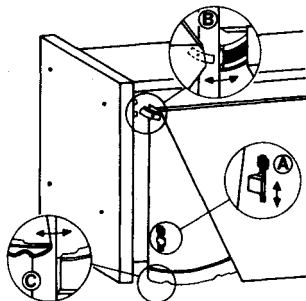

Fig 7
slides (A Fig. 7) upwards and pull the visor outwards and downwards.
Re-fit the visor by locating the top hinges (B Fig. 7) and then sliding onto the lower hinging brackets (C). Push the visor locking slides (A Fig. 7) downwards and refit the grille.